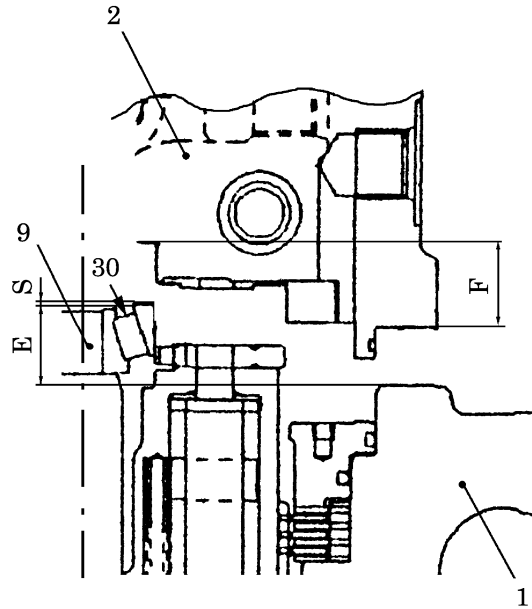

Fig.1-8 Determining the shim thickness
1. Measure the dimension E in the assembled condition in Fig.1-8.